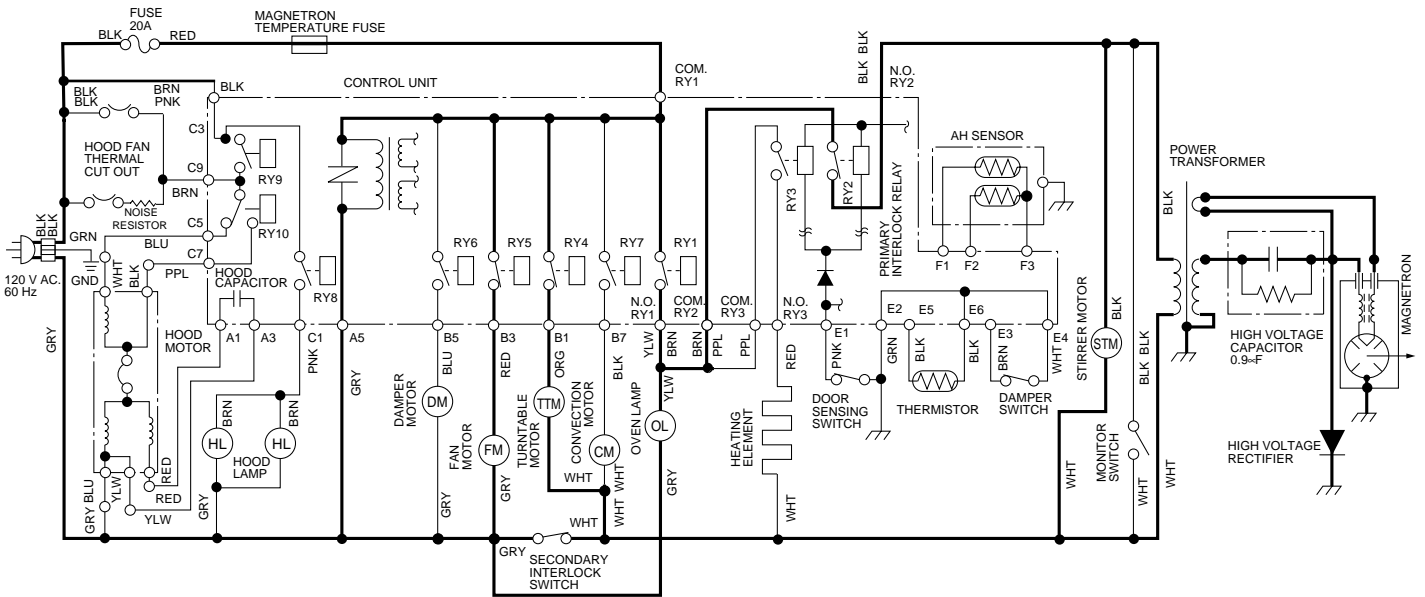

Figure O-2. Oven Schematic - Microwave Cooking Condition
1. The contacts of relays are closed and components connected to the relays are turned on as follows. (For details, refer to Figure O-2)